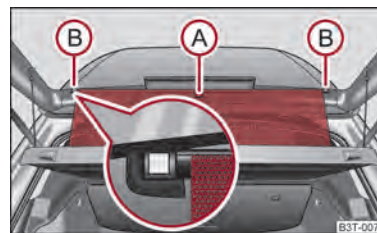

Fig. 49 Unroll the sun screen
- Pull the sun screen at the handle ① ⇒ fig. 49 and hang it in the magnetic brackets ②.